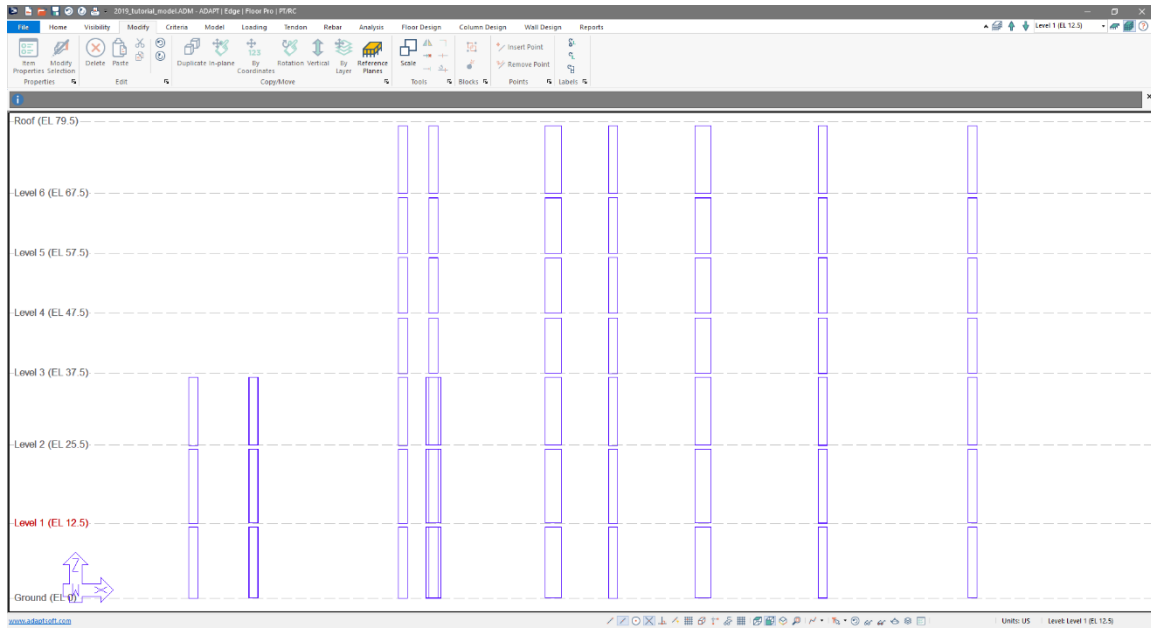

Figure 8-6
- Click on the *Front View*  icon in the **Bottom Quick Access Toolbar**. This will bring you to the view of the model shown in **FIGURE 8-6**.